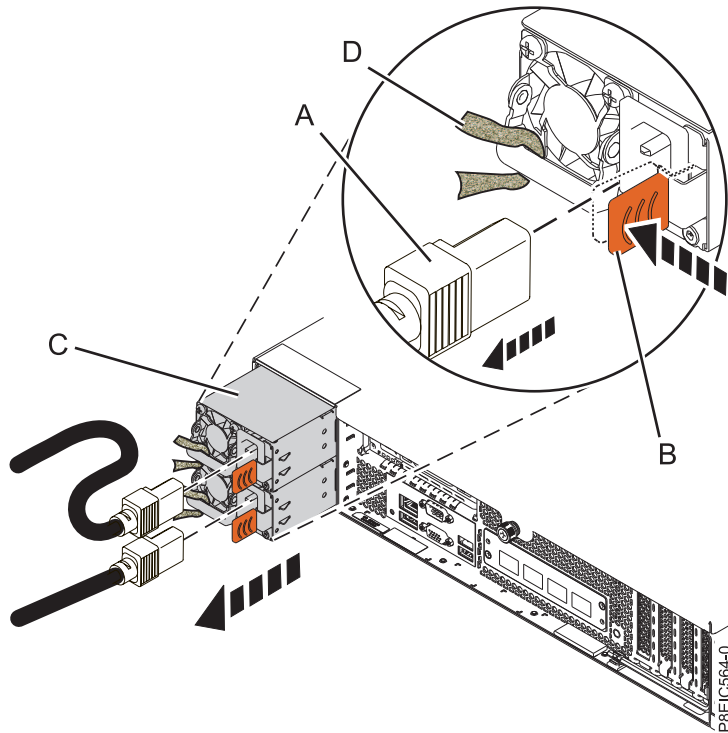

Figure 54. Removing a power supply from the system
- a. To unseat the power supply from its position in the system, push the locking-tab **(B)** in the direction shown. See Figure 54 on page 84.